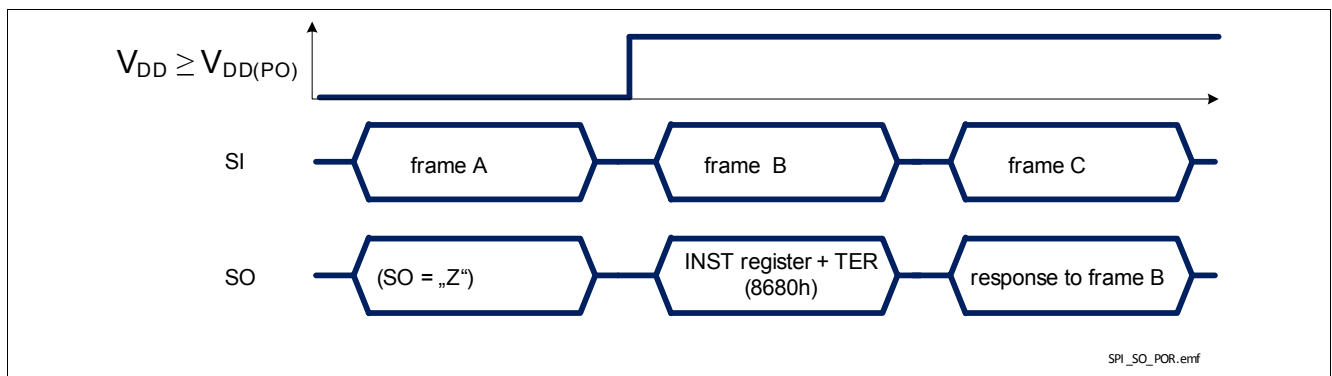

Figure 31 TLE75004-EPD response after coming out of Power-On reset at  $V_{DD}$
- when TLE75004-EPD logic supply comes out of Power-On reset condition or after a Software Reset, as shown in **Figure 31**